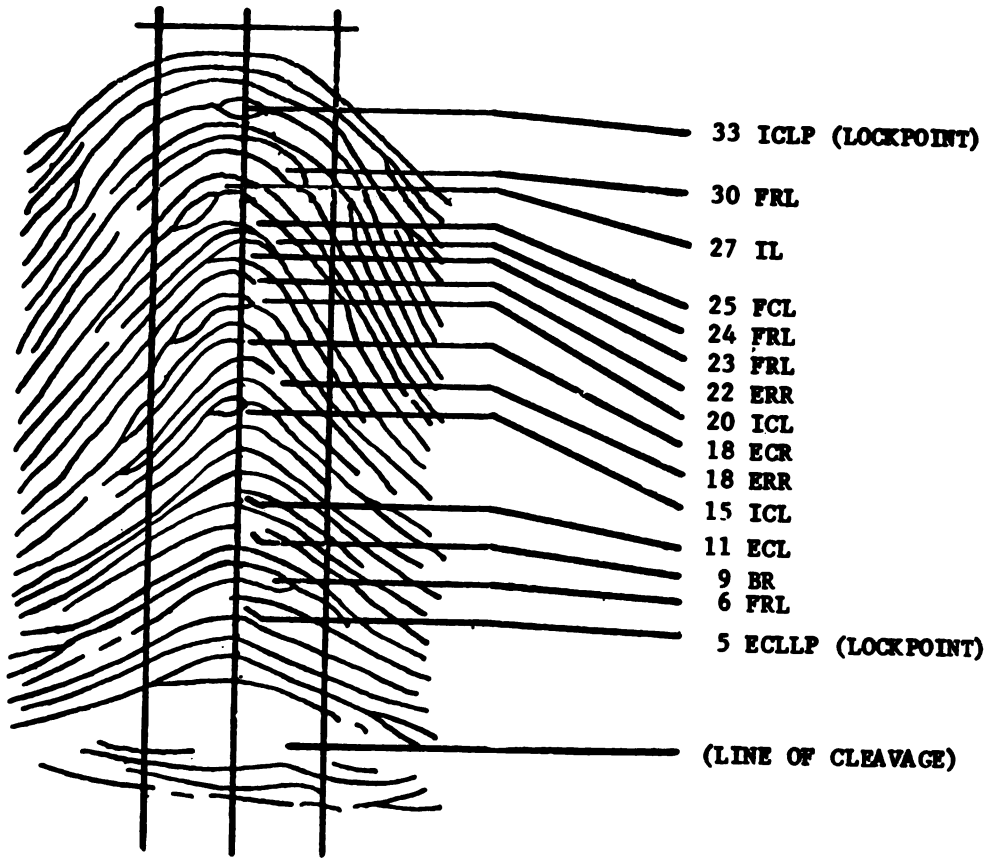

Figure 7. Lockpoint Method of fault count.
e. Identify the bottom lockpoint by counting the ridges that cross or touch the center line starting at the line of cleavage and proceeding upward through the impression. Give the fault that ridge number and identify it both as it appears within the template and as a lockpoint. For example, in figure 7, 5ECLLP is an end center left on the fifth ridge line up from the line of cleavage and is the lockpoint.
g. Identify the top lockpoint in the same manner as the bottom lockpoint. In figure 7, 33ICLP is an island center on the 33 ridge up from the line of cleavage and is the lockpoint.